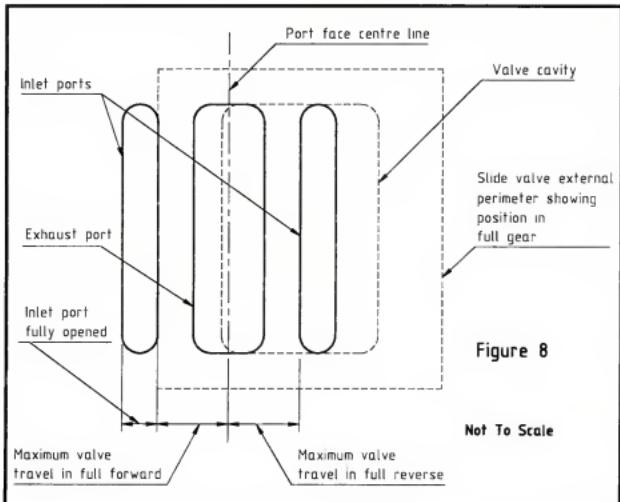

Figure 8
The process is almost identical to that of setting Walshaerts valve gear. Ensure the return crank (RC) is positioned exactly as previously described (Figure 2). Position the lever RSM parallel to the valve spindle (VS) and mark this position on the cab reversing quadrant to be used for future mid-gear selection. Lock the reverser in this position. With the valve chest removed, turn the entire motion and observe that the valve travels the same distance either side of the port face centre line (Figure 8). Use the inlet ports as a guide. If not equal, adjust the valve position on VS and repeat the process until equal travel is reached and lock the valve on the valve spindle. Next, adjust RS towards full forward. Again turn the entire motion and observe (or measure) that the valve travel in each direction is equal. Repeat the process by adjusting RL until the inlet ports are fully uncovered in each direction and mark this position on the reversing quadrant as being full forward. Repeat the entire process for full reverse. If there are differences in each direction of the valve